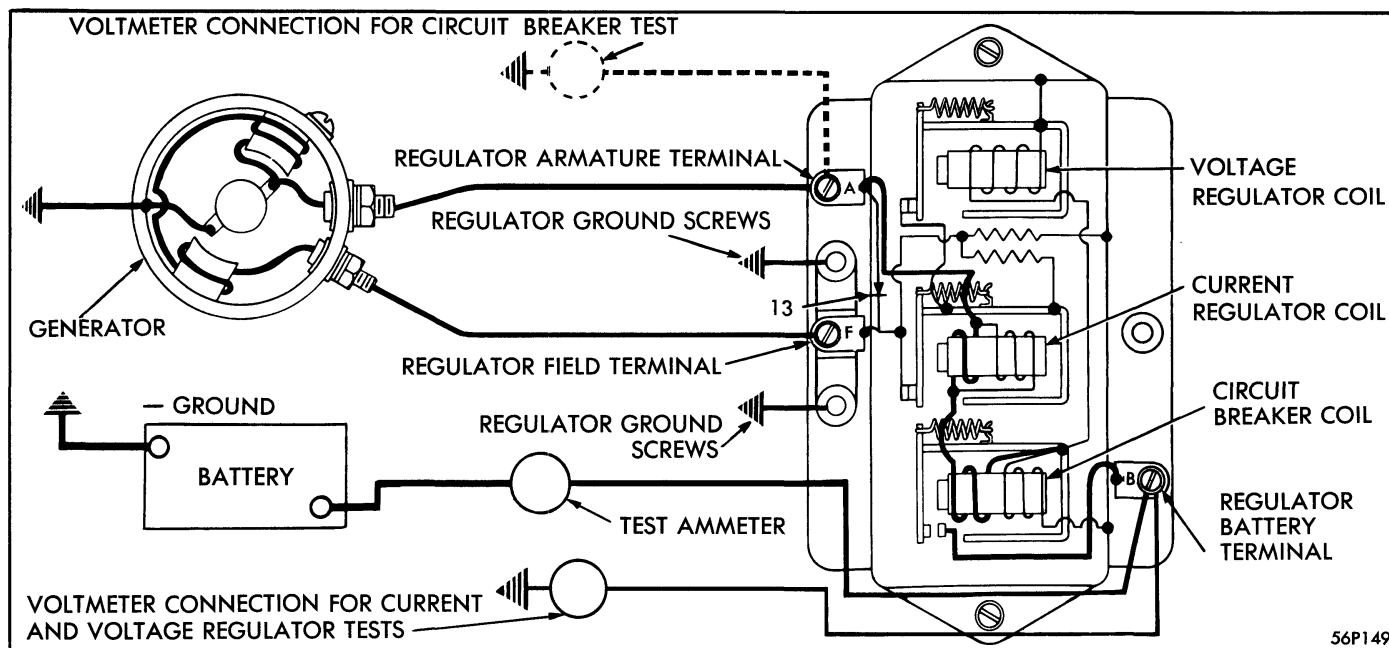

Figure 13—Generator Regulator Wiring and Test Connection Diagram
1. *VOLTAGE REGULATOR*—Operate the engine until the regulator is up to normal operating temperature. Connect a voltmeter from the battery terminal of the regulator to ground. See Figure 13.
meter to the wire that was removed and to the regulator "B" terminal as illustrated in Figure 13.
Connect the test voltmeter to the "A" terminal of the regulator and the regulator housing ground. See Figure 13.